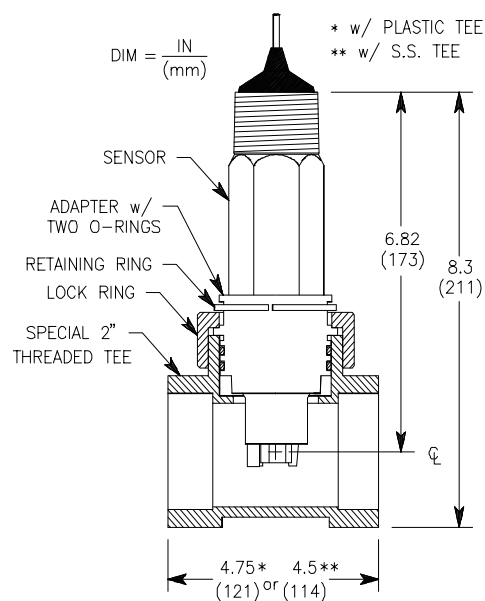

FIGURE 2-3 Union Mounting Details
2. Refer to Figure 2-3 and remove the retaining ring from the top portion of the adapter.
3. Place the lock ring onto the adapter as shown in Figure 2-3 (with lock ring threads towards adapter O-rings). Secure the lock ring onto the adapter by replacing the retaining ring over the top of the lock ring.